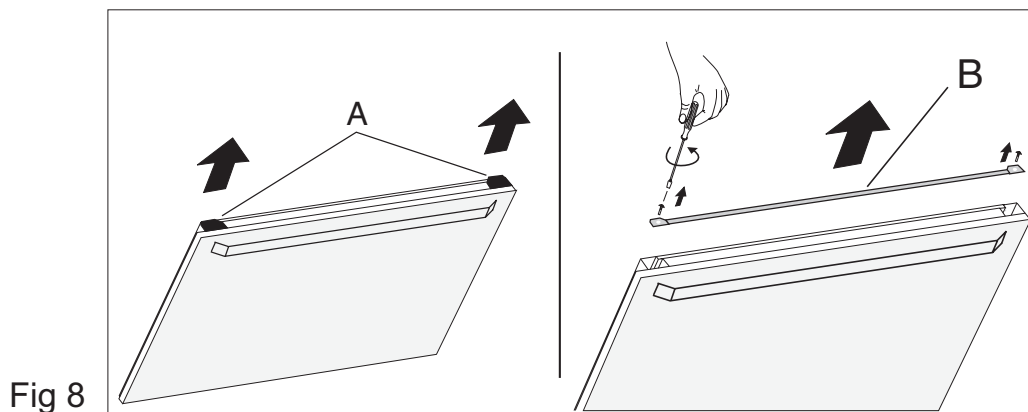
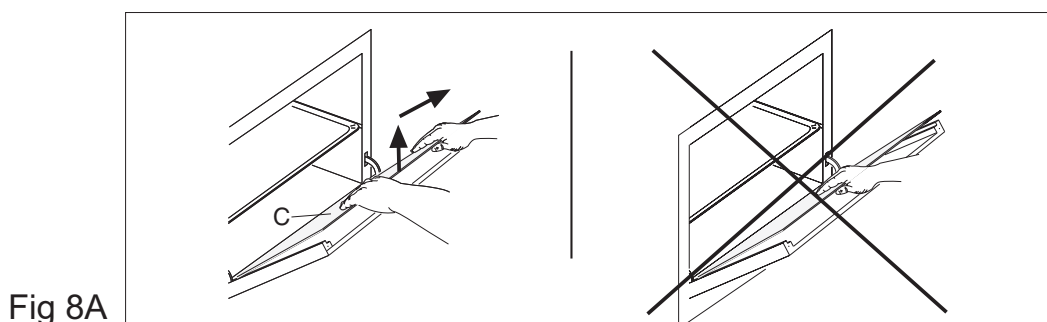

Fig 8
Fig 8A
- 1) open the door halfway and remove the glass stoppers **A**, the profile **B** (as shown in fig. 8) and the glass **C**, as shown in fig. 8A.